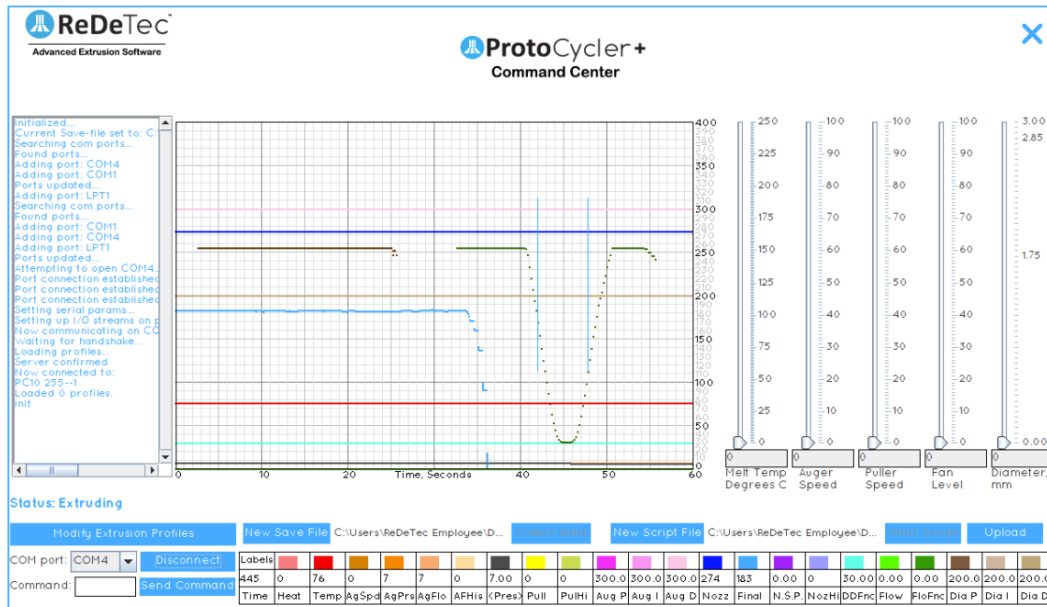

Figure 14: Puller sensor raw data reading with 1.83mm dowel.
- Looking at the GUI (graphical user interface) of your PCC, you should notice that the flat raw data line (representing light being read by the photoresistor) is now a “U-shaped” trough. This is representative of the shadow cast by the LED shining on the dowel, and is shown below in Figure 14.
the sensor should be re calibrated (Step 3) to ensure a correct reading. **Ultimately, you want to achieve Figure 14's response for both sensors -the key points are that the shadow is right in the middle of the sensor response pattern, that the pattern is a flat line at 255 where it's not blocked by the filament, and that the diameter reading is exactly accurate as reported.**